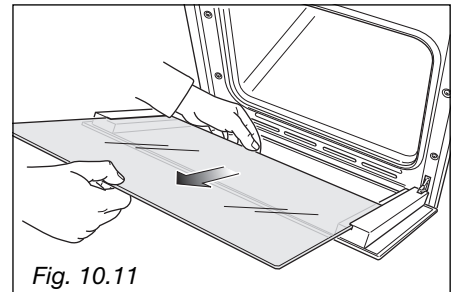

Fig. 10.11
- Gently pull out the inner pane of glass (fig. 10.11).